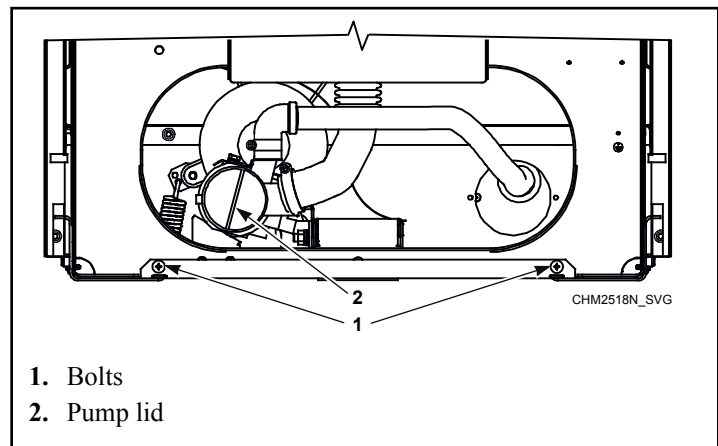

Figure 37
- c. Remove the front panel of cabinet by unlocking bolts. Refer to *Figure 37*.